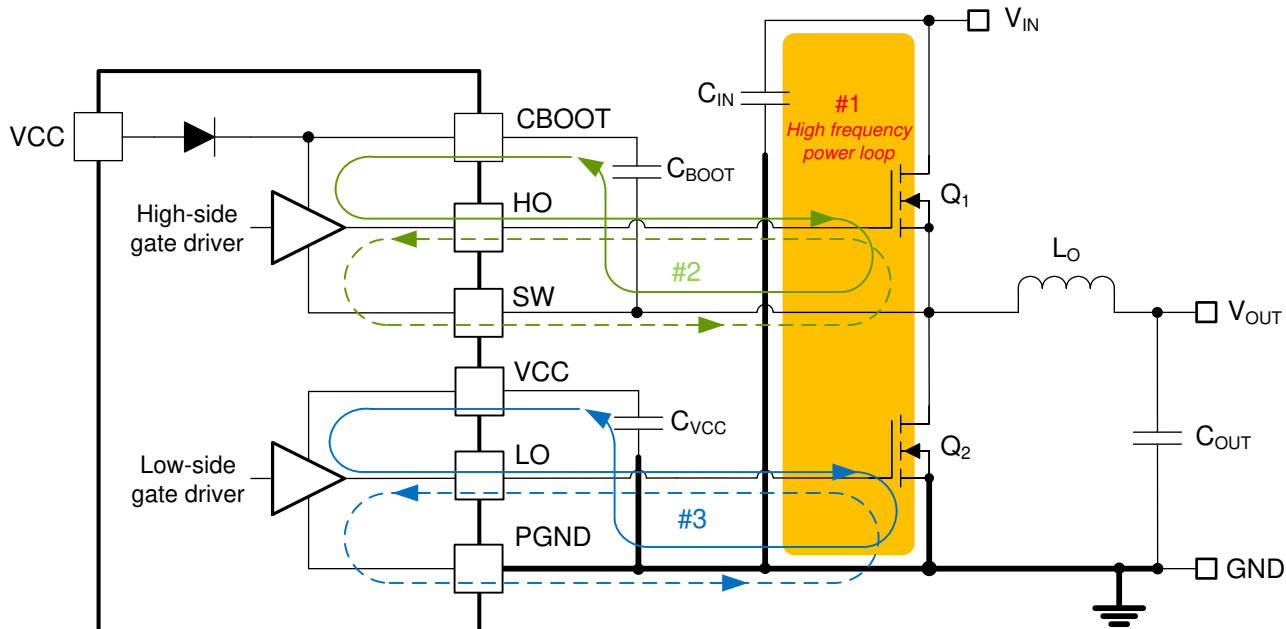

FIG 8-46. DC/DC Regulator Ground System With Power Stage and Gate Drive Circuit Switching Loops
Proper PCB design and layout is important in a high-current, fast-switching circuit (with high current and voltage slew rates) to achieve a robust and reliable design. As expected, certain issues must be considered before designing a PCB layout using the LM5148-Q1. The high-frequency power loop of a buck regulator power stage is denoted by loop 1 in the shaded area of 図 8-46. The topological architecture of a buck regulator means that particularly high di/dt current flows in the components of loop 1, and reducing the parasitic inductance of this loop by minimizing the effective loop area becomes mandatory. Also important are the gate drive loops of the high-side and low-side MOSFETs, denoted by 2 and 3, respectively, in 図 8-46.
- Loop 1: The most important loop area to minimize is the path from the input capacitor or capacitors through the high- and low-side MOSFETs, and back to the capacitor or capacitors through the ground connection. Connect the input capacitor or capacitors negative terminal close to the source of the low-side MOSFET (at ground). Similarly, connect the input capacitor or capacitors positive terminal close to the drain of the high-side MOSFET (at VIN). Refer to loop 1 of FIG 8-46.
- The SW pin connects to the switch node of the power conversion stage and acts as the return path for the high-side gate driver. The parasitic inductance inherent to loop 1 in FIG 8-46 and the output capacitance (C_{OSS}) of both power MOSFETs form a resonant circuit that induces high frequency (greater than 50 MHz) ringing at the SW node. The voltage peak of this ringing, if not controlled, can be significantly higher than the input voltage. Make sure that the peak ringing amplitude does not exceed the absolute maximum rating limit for the SW pin. In many cases, a series resistor and capacitor snubber network connected from the SW node to GND damps the ringing and decreases the peak amplitude. Provide provisions for snubber network
- Loop 2: high-side MOSFET, Q_1 . During the high-side MOSFET turn-on, high current flows from the bootstrap (boot) capacitor through the gate driver and high-side MOSFET, and back to the negative terminal of the boot capacitor through the SW connection. Conversely, to turn off the high-side MOSFET, high current flows from the gate of the high-side MOSFET through the gate driver and SW, and back to the source of the high-side MOSFET through the SW trace. Refer to loop 2 of Figure 8-46.
- Loop 3: low-side MOSFET, Q_2 . During the low-side MOSFET turn-on, high current flows from the VCC decoupling capacitor through the gate driver and low-side MOSFET, and back to the negative terminal of the capacitor through ground. Conversely, to turn off the low-side MOSFET, high current flows from the gate of the low-side MOSFET through the gate driver and GND, and back to the source of the low-side MOSFET through ground. Refer to loop 3 of Figure 8-46.